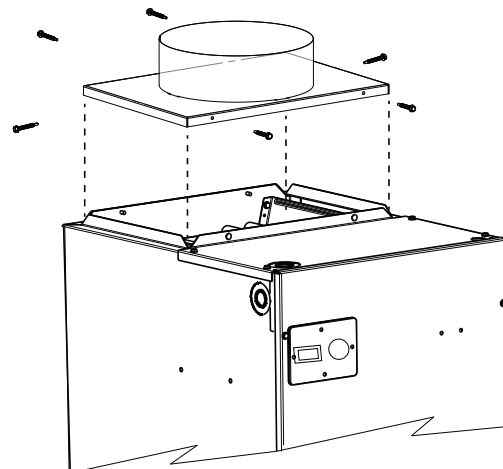

Fig. 5 – Typical Duct Transition Installation A200218A
10. Use the included screws to attach the round or oval duct transition plate to the top of the unit (Fig. 5).